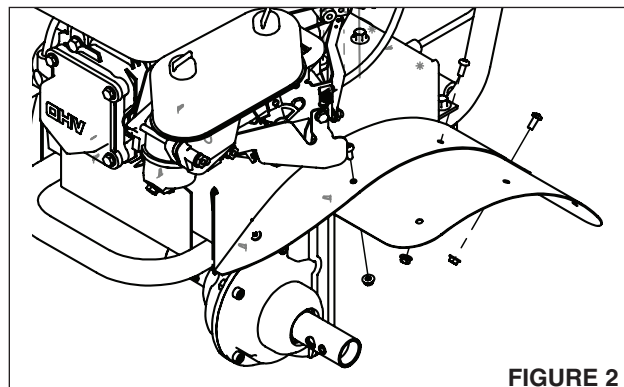

FIGURE 2
- b. Assemble hood extensions using (6) M6 x 12 outer hex flange bolts plus (6) M6 locknuts. **SEE FIGURE 2.**